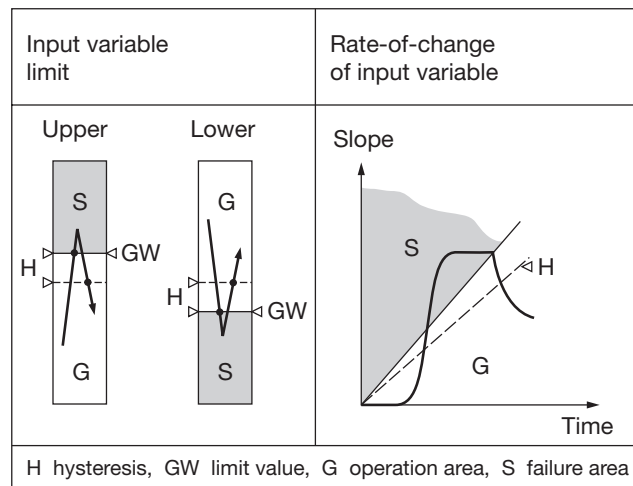

Fig. 3
- for monitoring the input variable in relation to a lower or upper limit between -10 and + 110%² (see left side of Fig. 3)
between ± 1 and ± 50%²/s (see right side of Fig. 3)